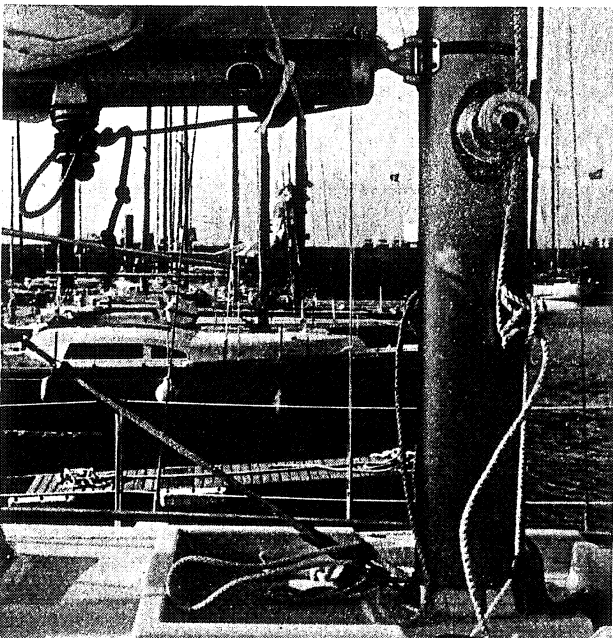

Fig. 6
6. take hold of the mast under the spreaders rigging. Lift and bring the mast to its tabernacle with the crane. (Fig. 6).